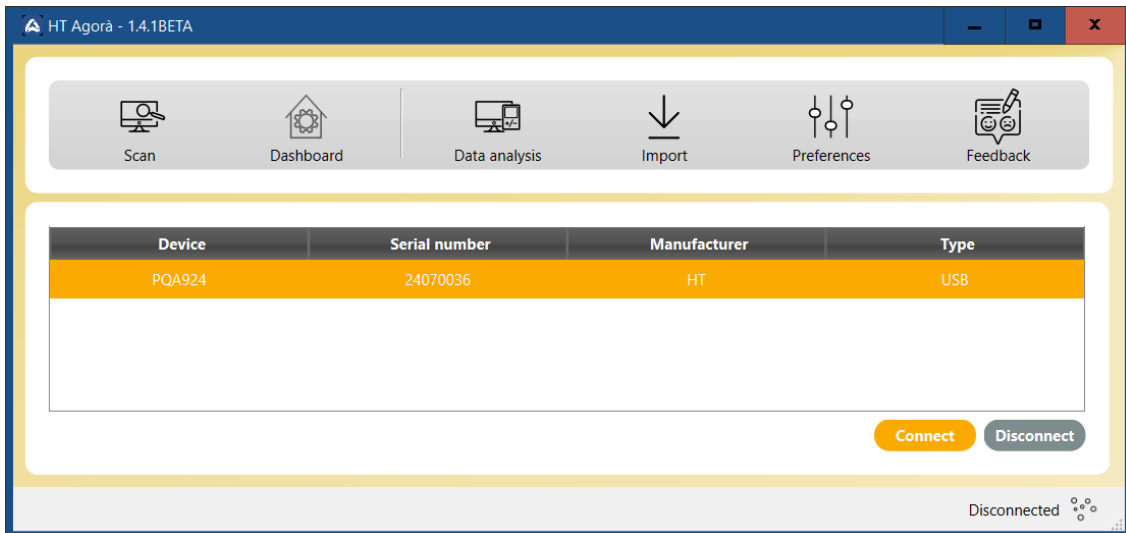

Fig. 84: Connecting the instrument via the HTAgorà software and USB connection
4. Click on "**Scan**" to detect the instrument. The "PQA924" and type of connection "USB" are shown, as indicated in the Fig. 84